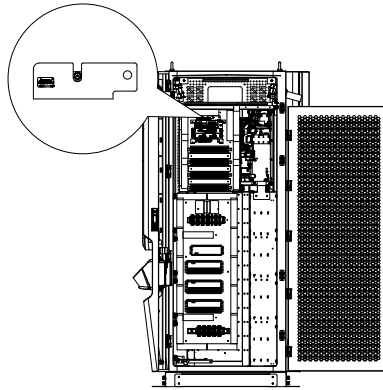

Figure 4-7. 4G/Wi-Fi Module Access
- 1) Pull out the first tray from the CSU box to access the 4G/Wi-Fi module inside the cabinet. Refer to the following figure 4-7.